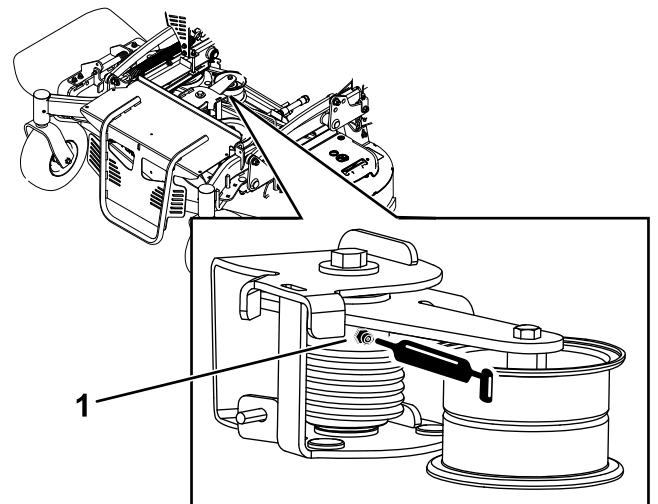

Figure 34
2. Grease the torsion idler on the mower deck using high-temperature grease at the grease fitting shown in Figure 34.